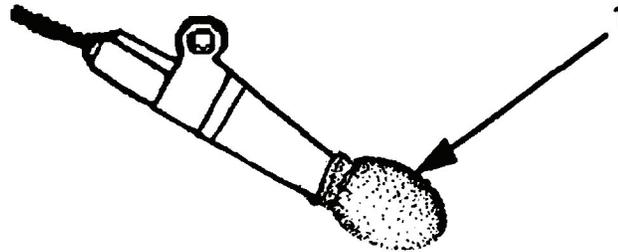

Figure 1.
4. Fasten and adjust Chin Strap Figure 1 .